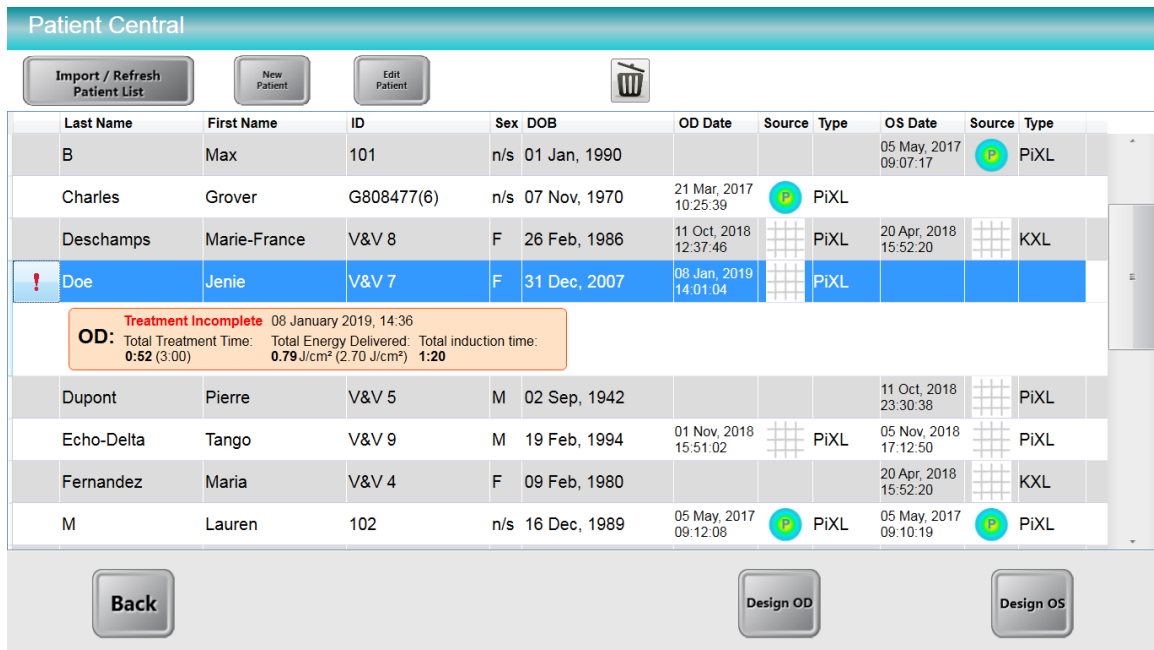

Figure 5-30. Treatment Incomplete Annotation
- In Patient Central, click on the red exclamation mark to show the actual treatment performed vs. the intended treatment, as shown in Figure 5-30.